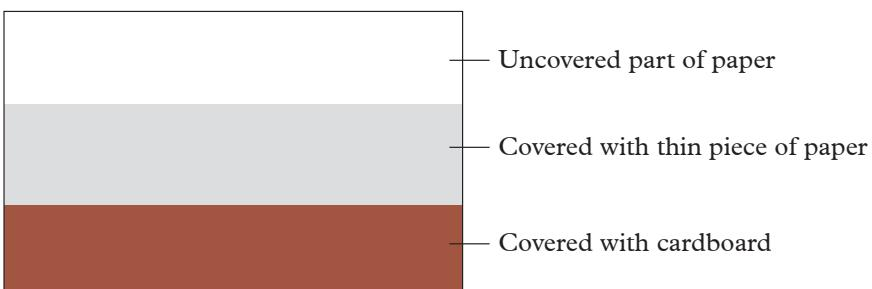

Fig 5.10: Experimental set up for determining the effect of light on silver bromide
3. Cover the lower part of the paper with card board as shown in the fig 5.10.